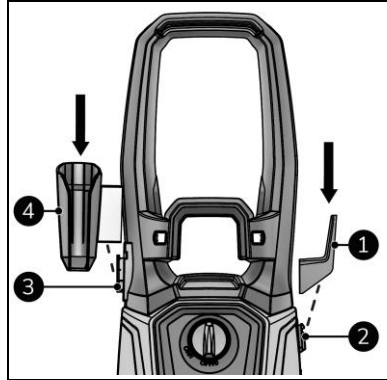

Figure 8
1. Slide the power cable bracket (Figure 8, pos. 1) onto the main body (Figure 8, pos. 2).
3. Slide the jet gun bracket (Figure 8, pos. 4) onto the handle (Figure 8, pos. 3).